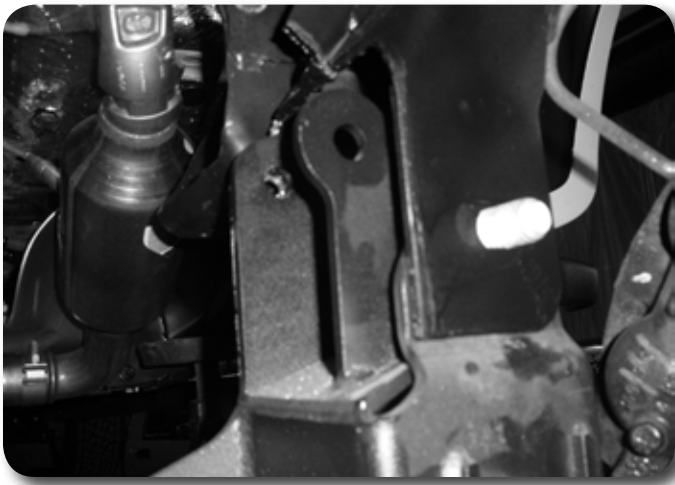

Figure 17
29. Install the rear crossmember Figure 17